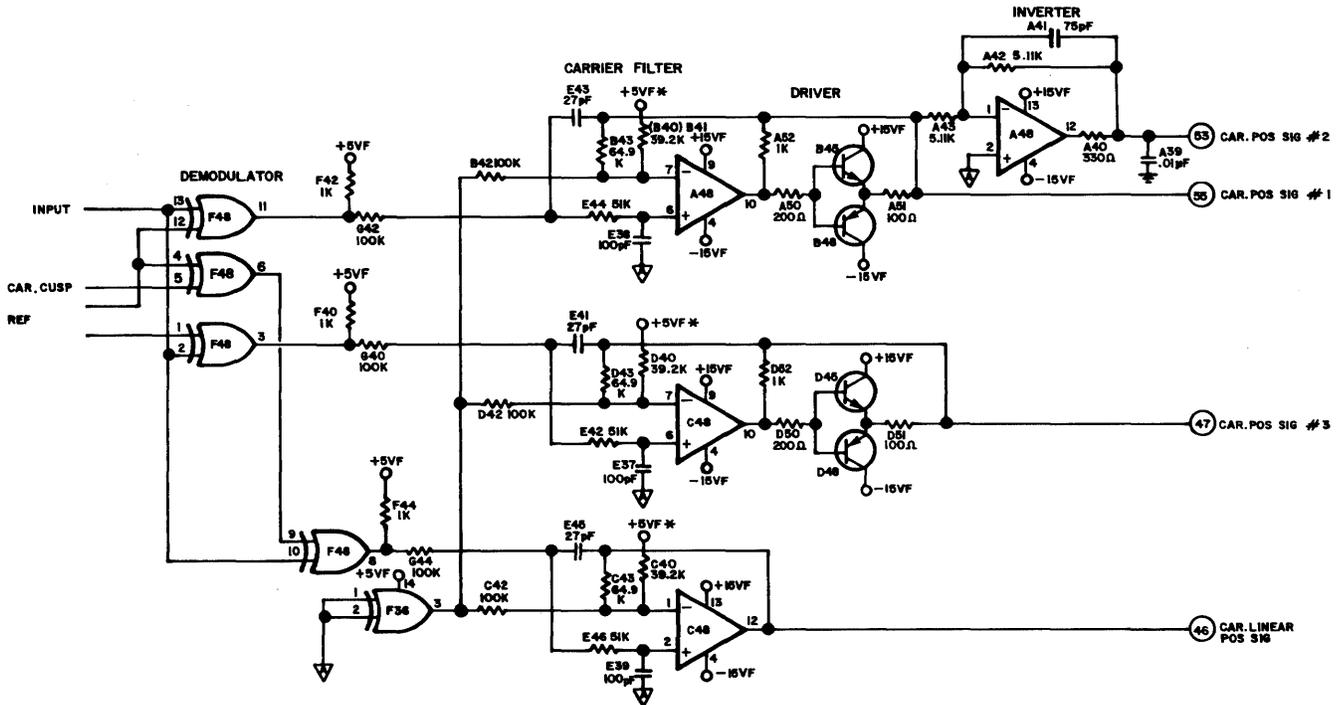
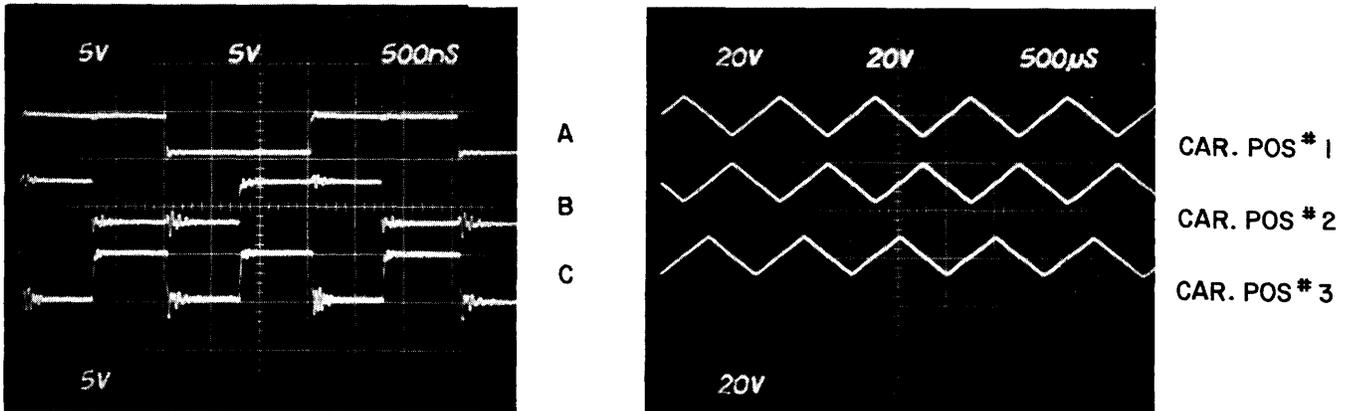
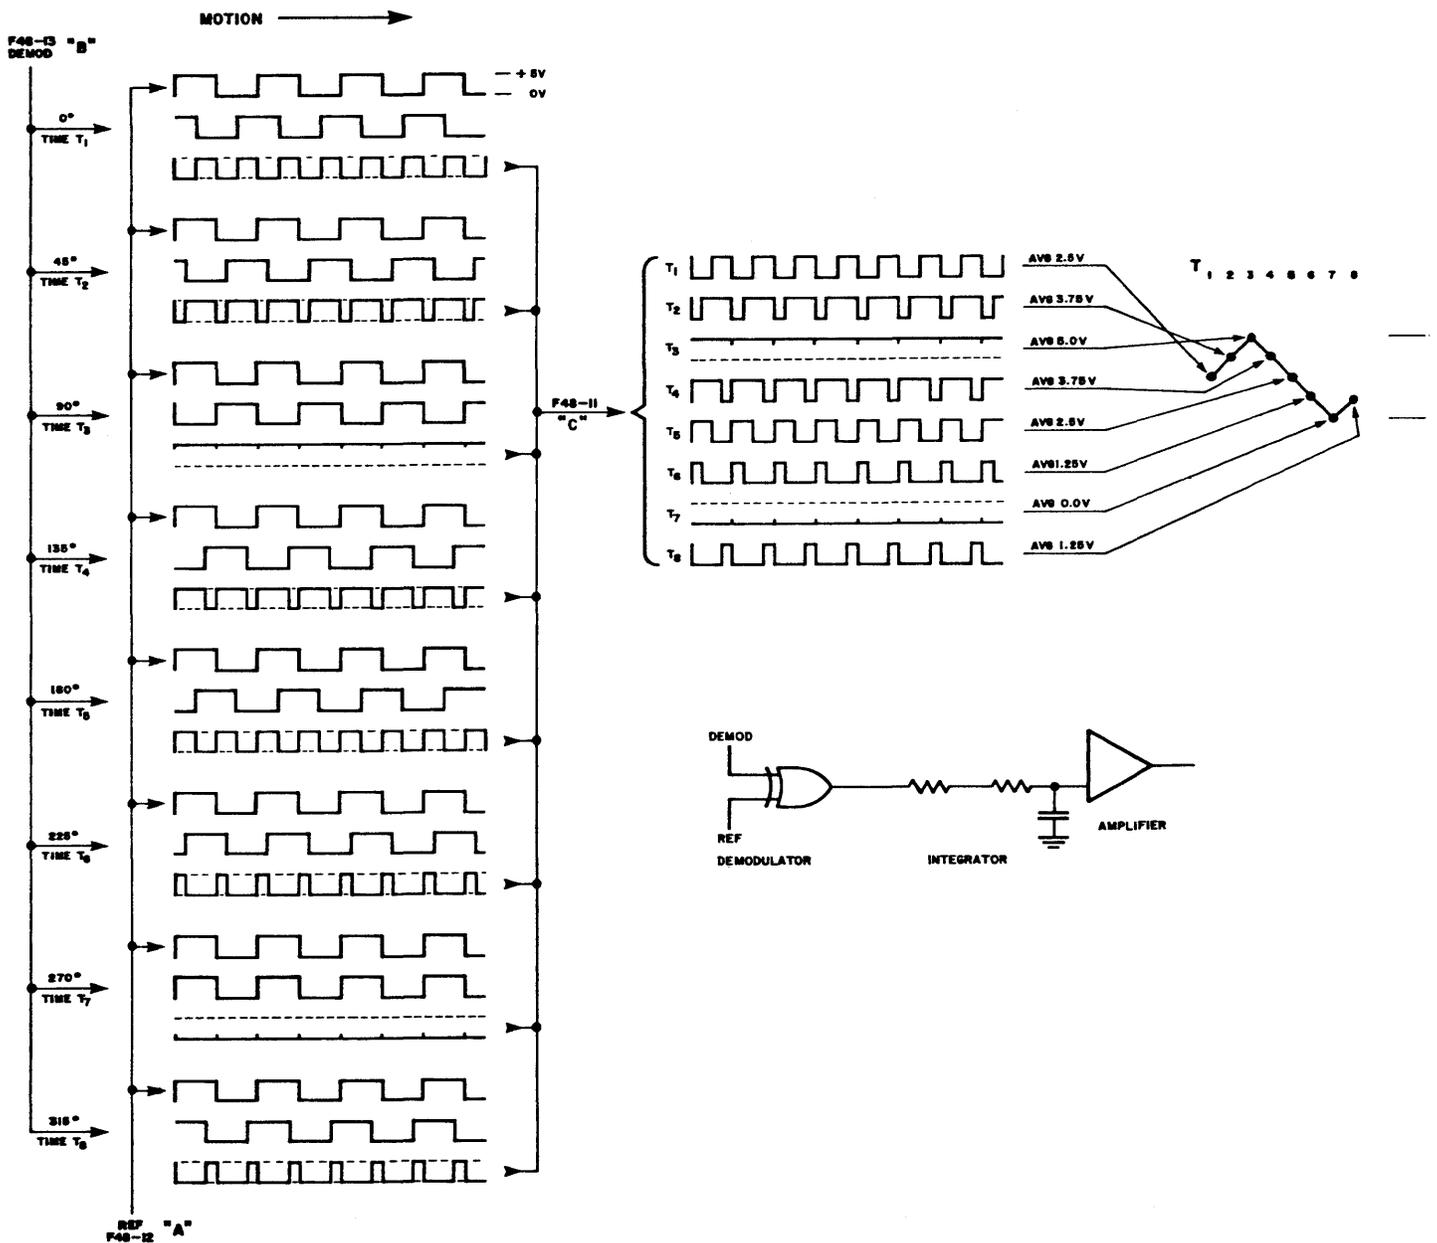

Figure 4-23 SERVO FEEDBACK DEMODULATOR/INTEGRATOR/AMPLIFIER
Figure 4-24 SERVO FEEDBACK DEMODULATOR/INTEGRATOR/AMPLIFIER WAVEFORMS
Figure 4-25 WAVEFORM ANALYSIS
Figure 4-23 is a partial schematic showing the Servo Feedback Demodulator/Integrator/Amplifier circuit. Figure 4-24 shows waveforms taken in this circuit.
As shown in Figure 4-24, by observing the two inputs to either F48-3 or F48-11 along with the gates' output on a multichannel oscilloscope which is synchronized to the sine-wave drive generator and slowly moving the carriage by hand, the square-wave input from comparator F10 (B) will appear to move with respect to the input on either pin 1 (F48-3) or pin 12 (F48-11) from the sine-wave generator (A). Then, the output (C) from either F48-3 or F48-11 will be a square wave whose relative HI-LO status will vary as the HI-LO states of the two inputs vary with respect to each other.
Figure 4-25 illustrates the development of the output waveform (C) from the two input waveforms (A and B), and further shows the saw-tooth waveshape developed in the integrating circuits for amplifiers A48-10 and C48-12. The output of A48-10 is then supplied to amplifier A48-12. These three amplifiers produce the waveshapes called CAR POS SIG #1, CAR POS SIG #2, and CAR POS SIG #3. In addition, when the carriage has stopped, the lower circuit shown in Figure 4-23 produces a signal called CAR LINEAR MODE, which is used to detent the servo.